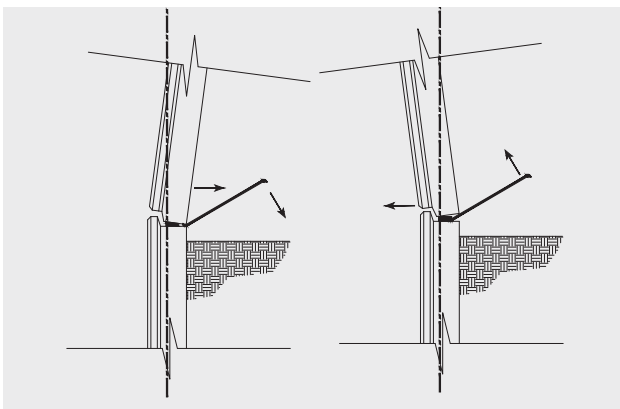

FIGURE 12: Use of crowbars to align ARES® panels.
- ▶ Using crowbars, position the panel and visually align it with the adjacent panels. (See Figure 12.)